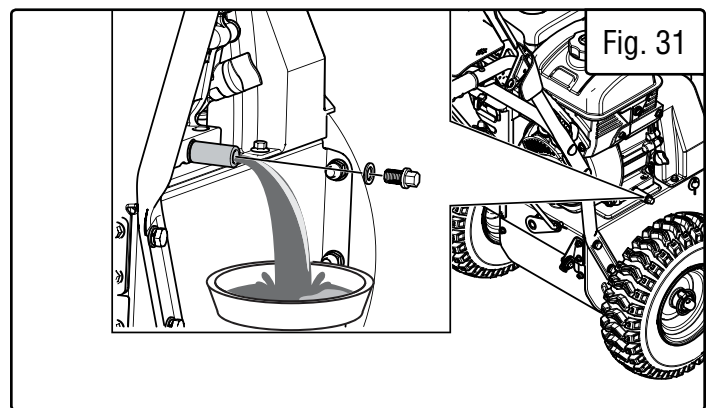

Fig. 31
2. Prepare an approved oil-storage container underneath the oil drain bolt (Fig. 31). **NOTE:** to avoid spills from the carburetor bowl, drain the carburetor (refer to "Draining The Carburetor" on page 2227) before draining the oil.